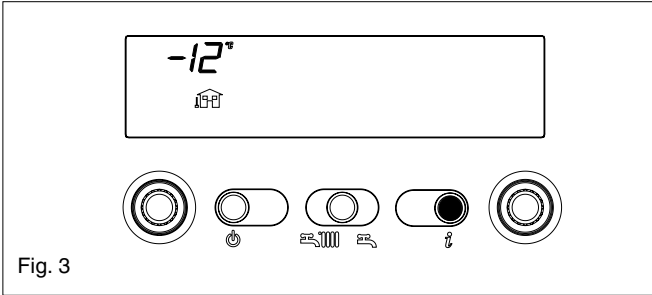

Fig. 3
- Info 1** outside temperature (only if outside sensor connected) (fig. 3)